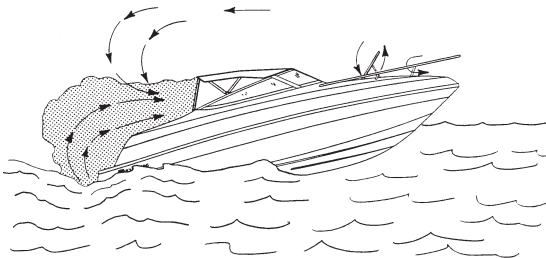

Figure B8: Backdrafting - Air flows over boat and behind transom
Backdrafting or the "station wagon effect" is caused by air movement over or around a boat creating a low pressure area or suction area around the stern that can increase CO level on the boat. Backdrafting can be affected by relative wind direction, boat speed, and boat trim angle. See Figure B8 Backdrafting – Airflows Over Boat and Behind Transom".
3. Canvas configurations – Under various conditions, adding or removing canvas may raise or lower CO levels. See Figures B8, B9 & B11.